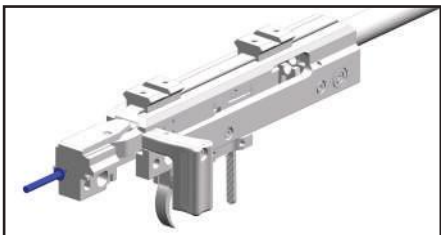

figure 14
3. Put the system in the housing and push in the bushing. Fix the system in the housing by screwing in the bushing screw. **Don't use to much force.** The screw and the system could be destroyed (figure 14+15).